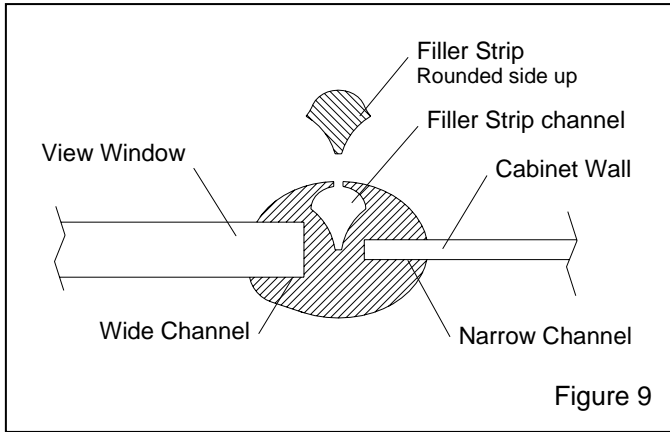

Figure 9
6.3.5. If the window molding needs replacing, replace it in the same order as the old; the narrow channel fits over the metal edge of the opening, as shown in Figure 9. The molding ends should meet in the middle of the top, straight section of the opening. Molding should be compressed so the ends are tightly sealed.